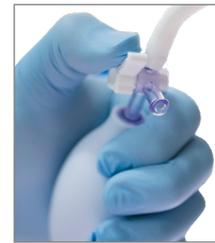

FIGURE 3
5. Inflate pressure infusion bag by rotating the off portion of the valve/stopcock to the right. Pump inflation bulb until gauge reaches the proper pressure (300 mmHg) indicated in the green portion on the manometer. (Figure 3)